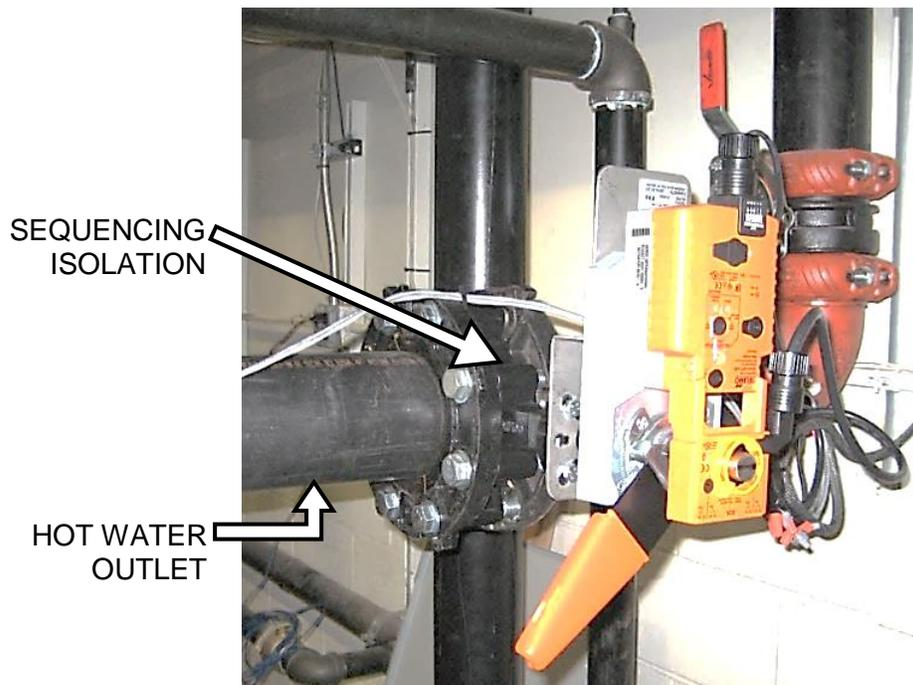

Figure 2-15: Sequencing Isolation Valve Installed
1. Install the sequencing isolation valve in the boiler's hot water outlet pipe (Figure 2-15).